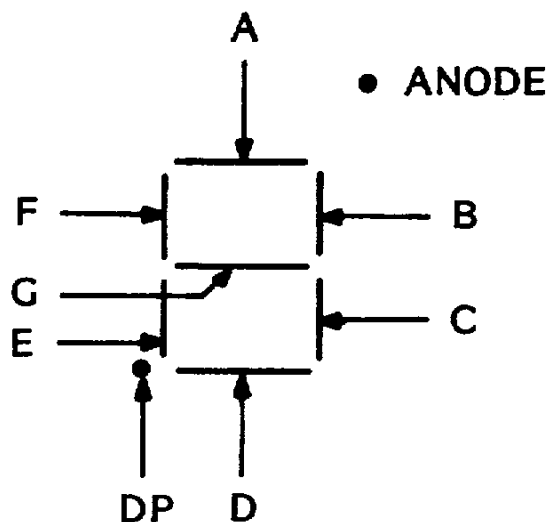

Figure 4-2 Seven Segment Display Connections
The following paragraphs provide detailed circuit descriptions of the various circuits within the major subassemblies of the TM/EP unit. Figures 4-2 through 4-8 and schematic diagrams in Section 6 are referenced in the appropriate circuit discussions to provide a clearer understanding of the functions of the electrical devices and elements in each circuit.
The time display PCB is located in the TM/EP headset unit and consists of three identical seven segment digital readout devices. Each device contains seven LEDs with their anodes connected to a common terminal. The LED cathodes are connected to separate terminals (A through G) see Figure 4-2. The LEDs are positioned within the device in such a way that illumination of any one will illuminate a particular segment of a decimal digit. Illumination of all seven LEDs generates the decimal 8 numeral, and combinations of LEDs can generate any decimal numeral from 0 to 9. See Figure 4-2. An 8th LED is used to form a decimal point (DP) as shown.